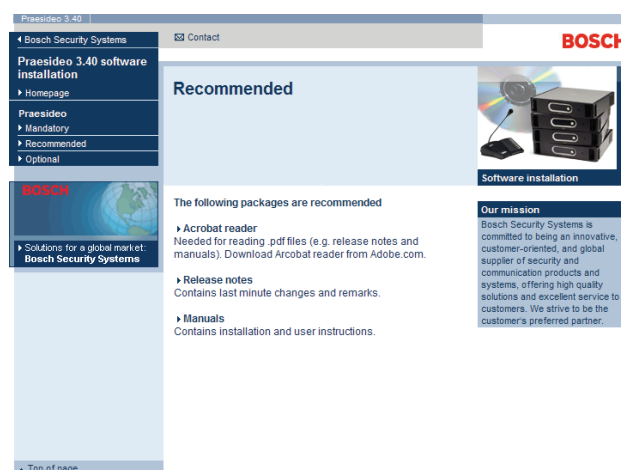

figure 38.1: Recommended software packages page
- 2 Click the *Recommended* link. A screen similar to the one in figure 38.1 appears.